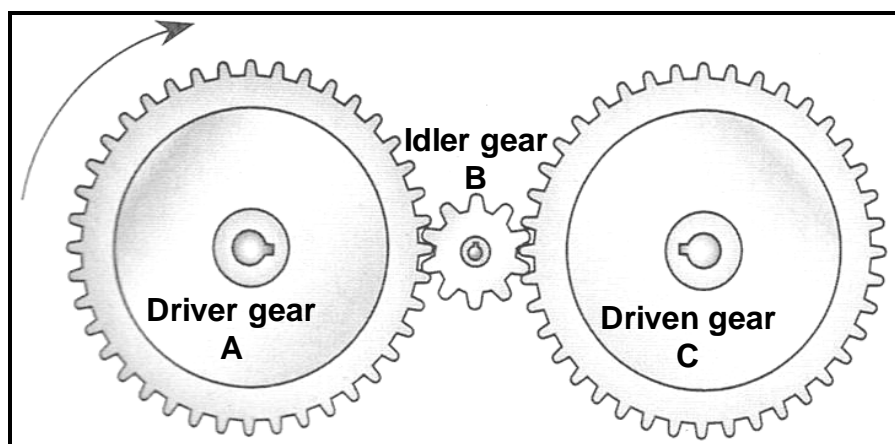

FIGURE 1.2
- 1.16 FIGURE 1.2 below shows three gears meshing. What is the purpose of idler gear **B**?